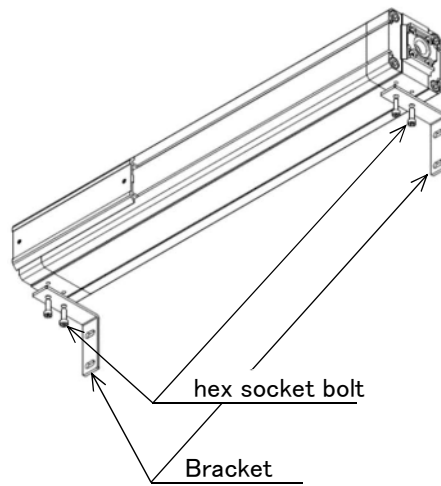

Fig.5
- 1) When bracket attached as an option is used, position the brackets according to the screw hole on the lower side of the Nitrogen gas extraction unit and fix it with four attached M5 hex socket bolts. Use tightening torque 3 N·m for M5 hex socket bolts. (Refer to Fig.5)